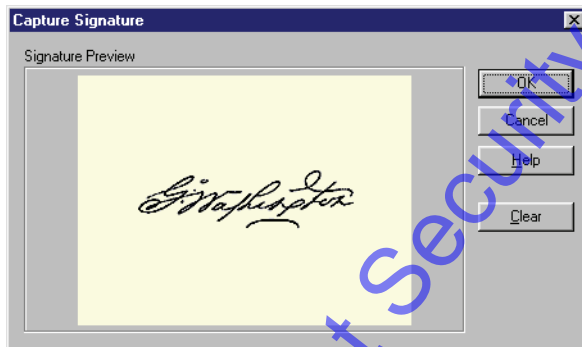

Figure 9-31 Capture Signature Window with Signature
- Have the user take the stylus in hand and enter a signature, just like signing a piece of paper. As the signature is written, it appears in the Capture Signature window (see Figure 9-31).